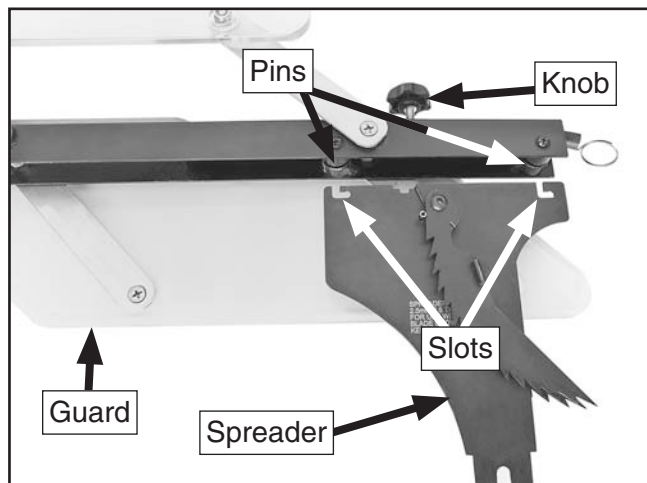

Figure 43. Assembling blade guard and spreader.
- Loosen the top knob on the blade guard, slide the pins on the guard into the spreader slots, move the guard back, then tighten the top knob (see **Figure 43**).